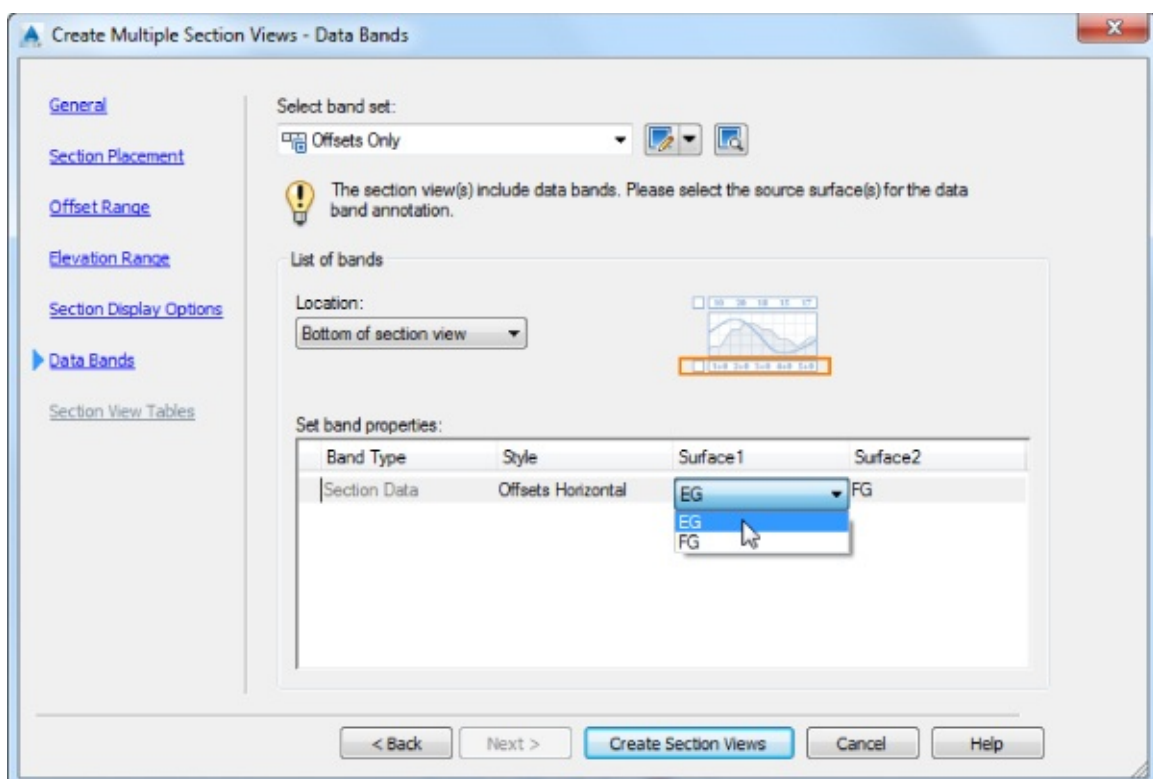

Figure 15.26 Create Multiple Section Views – Data Bands wizard page
b. Under Set Band Properties, verify that Surface1 is set to EG and Surface2 is set to FG, as shown in Figure 15.26.